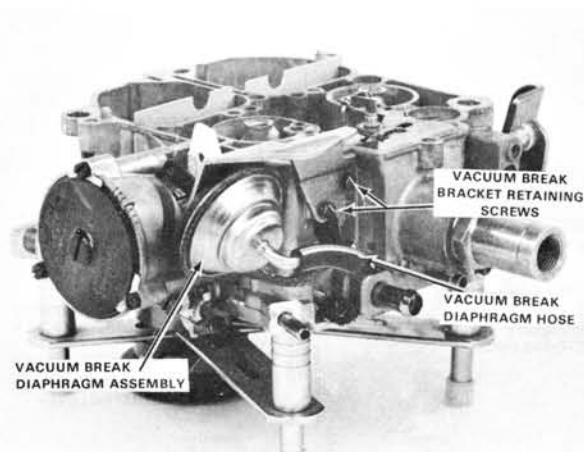

FIGURE 37
4MC BOWL ASSEMBLY (Fig. 37)
1. Remove vacuum break hose from vacuum break assembly and connection at tube on float bowl (Figure 37).
2. Remove (2) retaining screws and remove vacuum break and bracket assembly from float bowl.